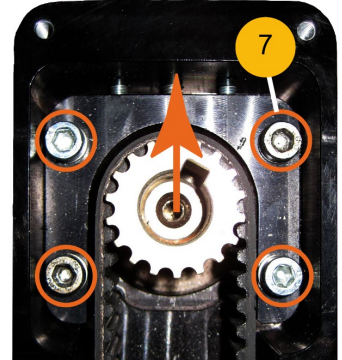
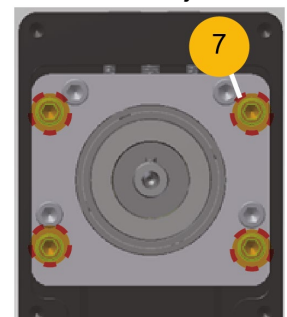

Figure 28: Screws for fixation of drive unit ETH032...ETH080
Figure 29: Screws for fixation of drive unit ETH100 & ETH125
- ◆ The screws (please refer to Figure 28 Pos.7) must be screwed in without torque so that the drive unit can be lifted upwards
- ◆ Tighten 4 screws (please refer to Figure 28 Pos.7) with the given tightening torque (please refer to Table 3).
- ETH032...ETH080: see Figure 28, Pos 7
- ETH100 & ETH125; see Figure 29, Pos7 are provided with a medium strength screw lock (e.g. type Wiko 02K43) and are fully screwed in. Only screw in screws without torque: Recommendation: Screw in the screws completely and then loosen again about half a turn.
- ◆ The screws (please refer to Figure 28 Pos.7 ETH100&125; see Figure 29, Pos7) must be screwed in without torque, so that the drive unit can be lifted upwards.
- ◆ ETH100 & ETH125 Motor/gearing installation: Now the motor/ gearbox (see page 39) must be installed. In this case, the screws, Figure 29, Pos7 still have to be loosened easily. After the motor/gear assembly and before the gradual final tightening of the clamping bushing (see Figure 26Pos 20; Figure 27Pos 20a) the four screws, see Figure 29 Pos7, must be fully tightened (screw tightening torques see Table 3).
- ◆ ETH032...ETH080: Completely tighten the four screws (please refer to Figure 28 Pos.7. screw tightening torques and Table 3.)